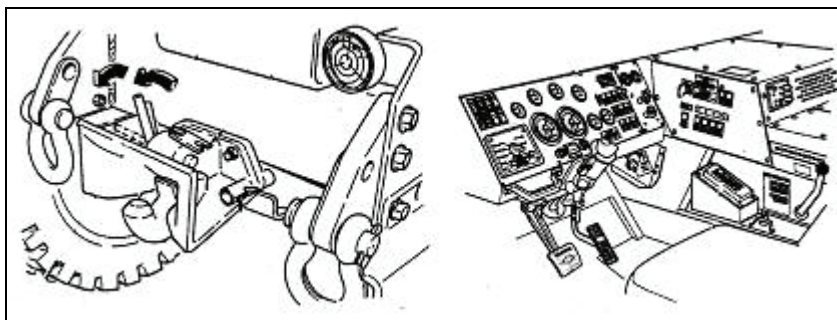

Figure 3-21. Locking Pin and Coupler
3. Couple PLS truck to PLS trailer (PLS/HEMTT-LHS systems only) (see Figure 3-21 through Figure 3-24).